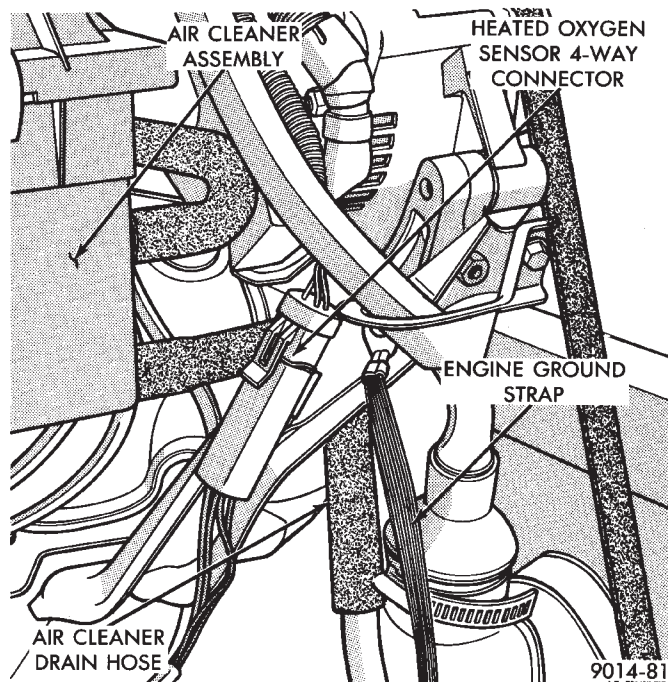

Fig. 6 Oxygen Sensor Connector
(9) Verify the engine ground strap is attached at the engine and dash panel (Fig. 6).
(10) Ensure the heated oxygen sensor connector is connected to the harness connector (Fig. 6).